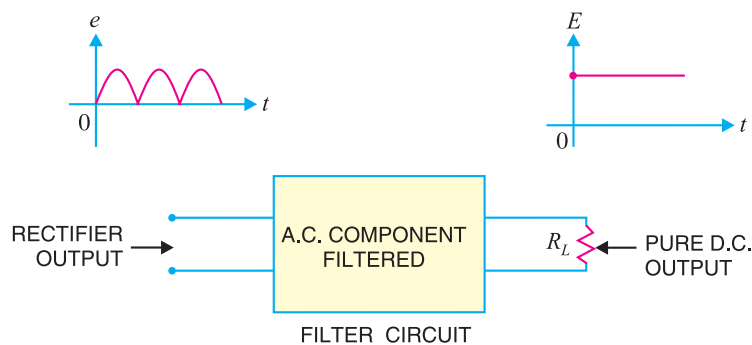

Fig. 6.40
Obviously, a filter circuit should be installed between the rectifier and the load as shown in Fig. 6.40. A filter circuit is generally a combination of inductors (L) and capacitors (C). The filtering action of L and C depends upon the basic electrical principles. A capacitor passes a.c. readily but does not **pass d.c. at all. On the other hand, an inductor †opposes a.c. but allows d.c. to pass through it. It then becomes clear that suitable network of L and C can effectively remove the a.c. component, allowing the d.c. component to reach the load.